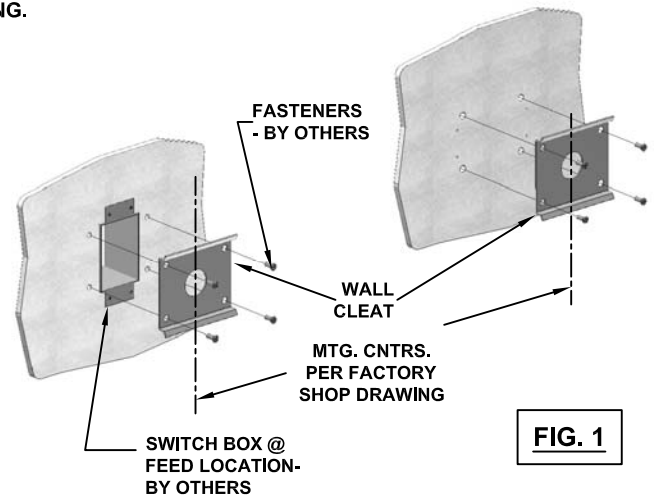

FIG. 1
USING WALL CLEAT AS A TEMPLATE, CENTER OVER VERTICALLY MOUNTED SWITCH BOX AND MARK (4) MOUNTING HOLES. USE LEVEL TO PLUMB WALL CLEAT. (FIG. 1) DRILL HOLES APPROPRIATE FOR MOUNTING SURFACE AND FASTENERS TO BE USED. SECURELY ATTACH WALL CLEAT TO WALL.